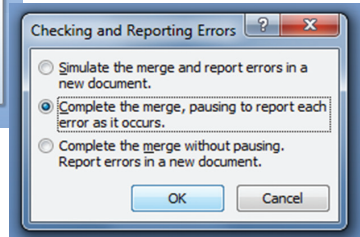
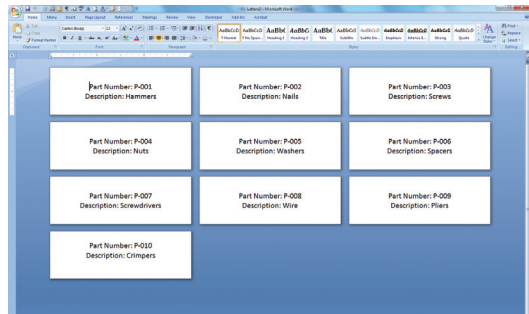

FIGURE 21 The Checking and Reporting Errors window lets you decide how and when you want to receive error messages.
FIGURE 22 Your labels are displayed in sequence prior to printing.
S. A **Checking and Reporting Errors** window now appears. Leave the second option selected and click **OK** (Fig. 21). Your labels are then displayed on a single document for your review (Fig. 22).